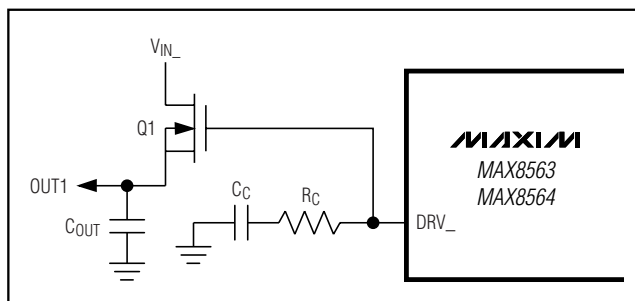

Figure 3. Soft-Start and Compensation Schematic
When an LDO is activated, the respective DRV- is pulled up from GND with a typical soft-start current of 100μA. The soft-start current limits the slew of the output voltage and also limits the initial spike of current that the drain of the external n-MOSFET receives. The size of the compensation capacitor (CC) limits the slew rate (see Figure 3). This slew rate is equal to (100 / CC)mV/ms, where CC is in μF. The maximum drain current during startup is the ratio of COUT- to CC multiplied by the soft-start current of 100μA.